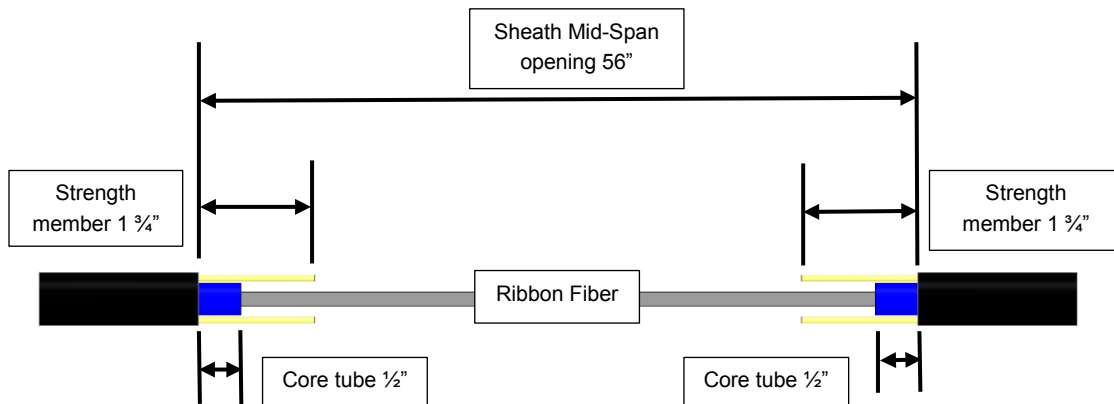

Figure 10
7.1.1 Preparation of Ribbon Central Core Tube shielded/unshielded, remove 56" of outer sheath. See Figure 10.
7.1.2 Cut strength member(s) 1 3/4" from end of sheath openings. See Figure 10.
7.1.3 Remove core tube from ribbon leaving 1/2" core tube measured from the cable sheath opening. See Figure 10.